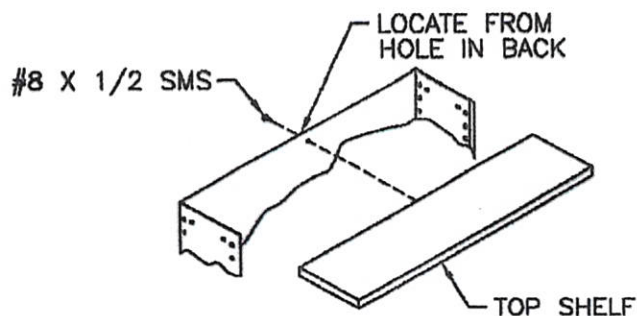

FIGURE 8
9. On free standing wall sections only, secure the back to the top shelf by drilling 1/8" diameter pilot hole through the center and secure with (1) #8×1/2 screw as shown. (FIGURE 8)